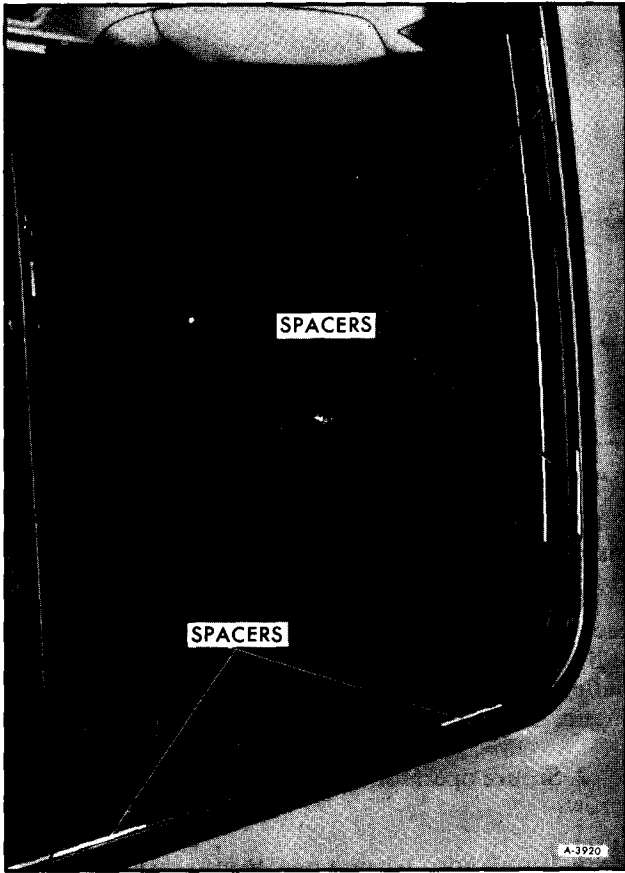

Figure 17—Location of Plastic Spacers
5. Observe position of four plastic spacers, Figure 17. Lift spacers from butyl sealer.
2. Lay plastic spacers in place as shown in Figure 17.